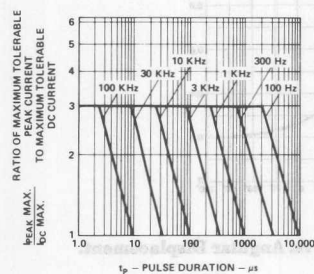

Figure 5. Maximum Tolerable Peak Current vs. Pulse Duration. ( $I_{DC}$  MAX as per MAX Ratings)
1. See Figure 5 (Red/Orange), 10 (Yellow), or 15 (Green) to establish pulsed operating conditions.